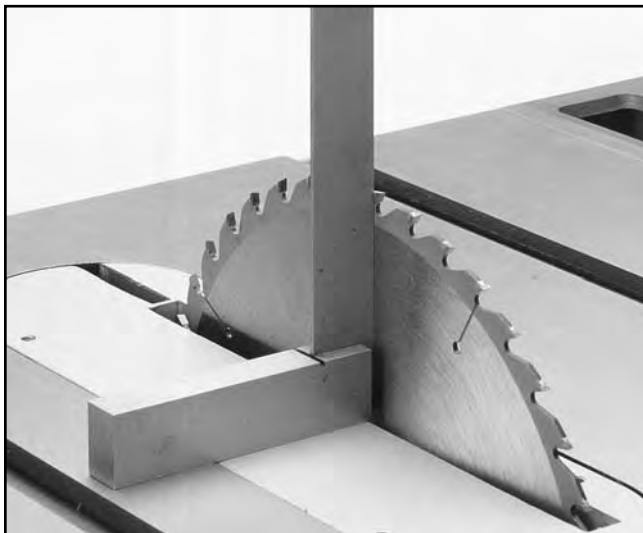

Figure 46. Checking blade angle to table.
3. Once your blade is set at 90° to the table, place a machinist's square or speed square against the blade and table surface, as shown in **Figure 46**.